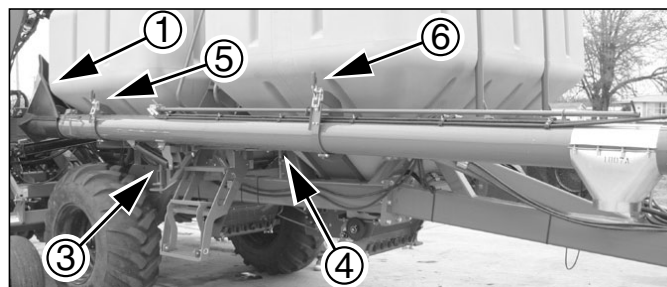
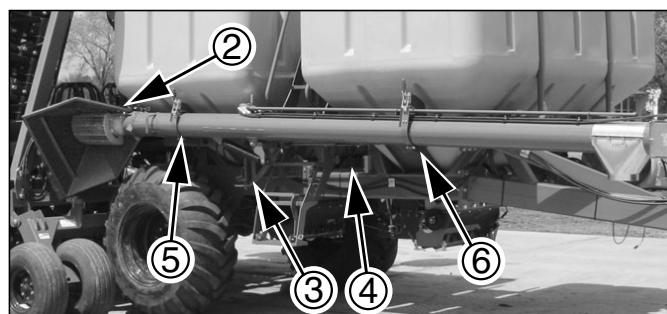

Figure 40
Figure 41
Refer to Figure 40 and Figure 41
If storing for transport, orient the inlet hopper up and toward cart center ①, as shown in Figure 40. This protects the auger from damage from movement of the trailing implement on uneven terrain, and minimizes collection of debris thrown by the tire.
If securing the auger for cart storage, orient the inlet hopper out and down ②, as shown in Figure 41. This minimizes collection of airborne debris and precipitation. See also “Storage” on page 55.
2. Set arm levers ③, ④ to lock arm pins open.